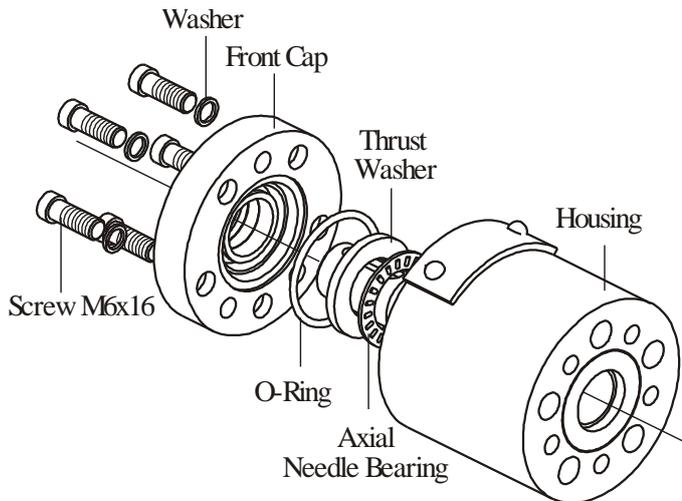

Fig. 5
9. Unscrew screws using S5 Allen head spanner (see Figure 5).
8. Install in the front cap 6 screws M6x16 with washers and alternately torque them to 8÷10 Nm (see Fig.5).